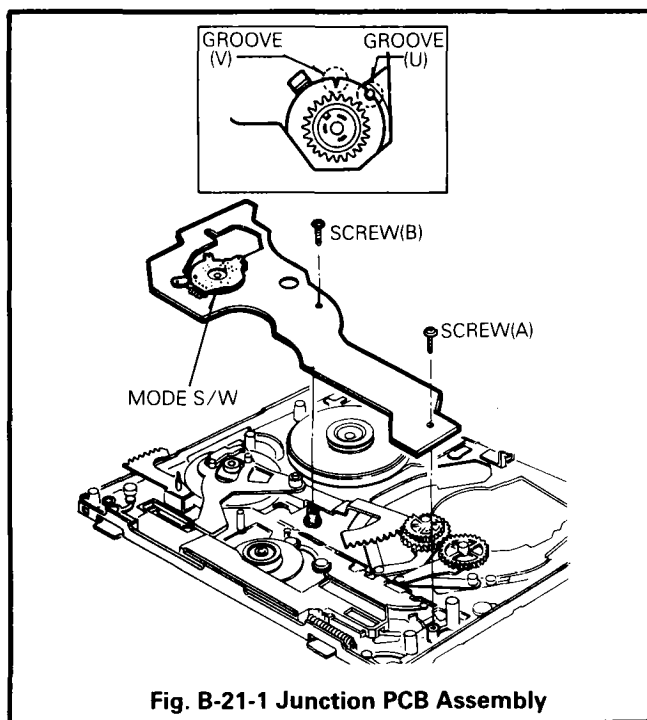

Fig. B-21-1 Junction PCB Assembly
21. Junction PCB (Printed Circuit Board) Assembly (Fig. B-21-1)